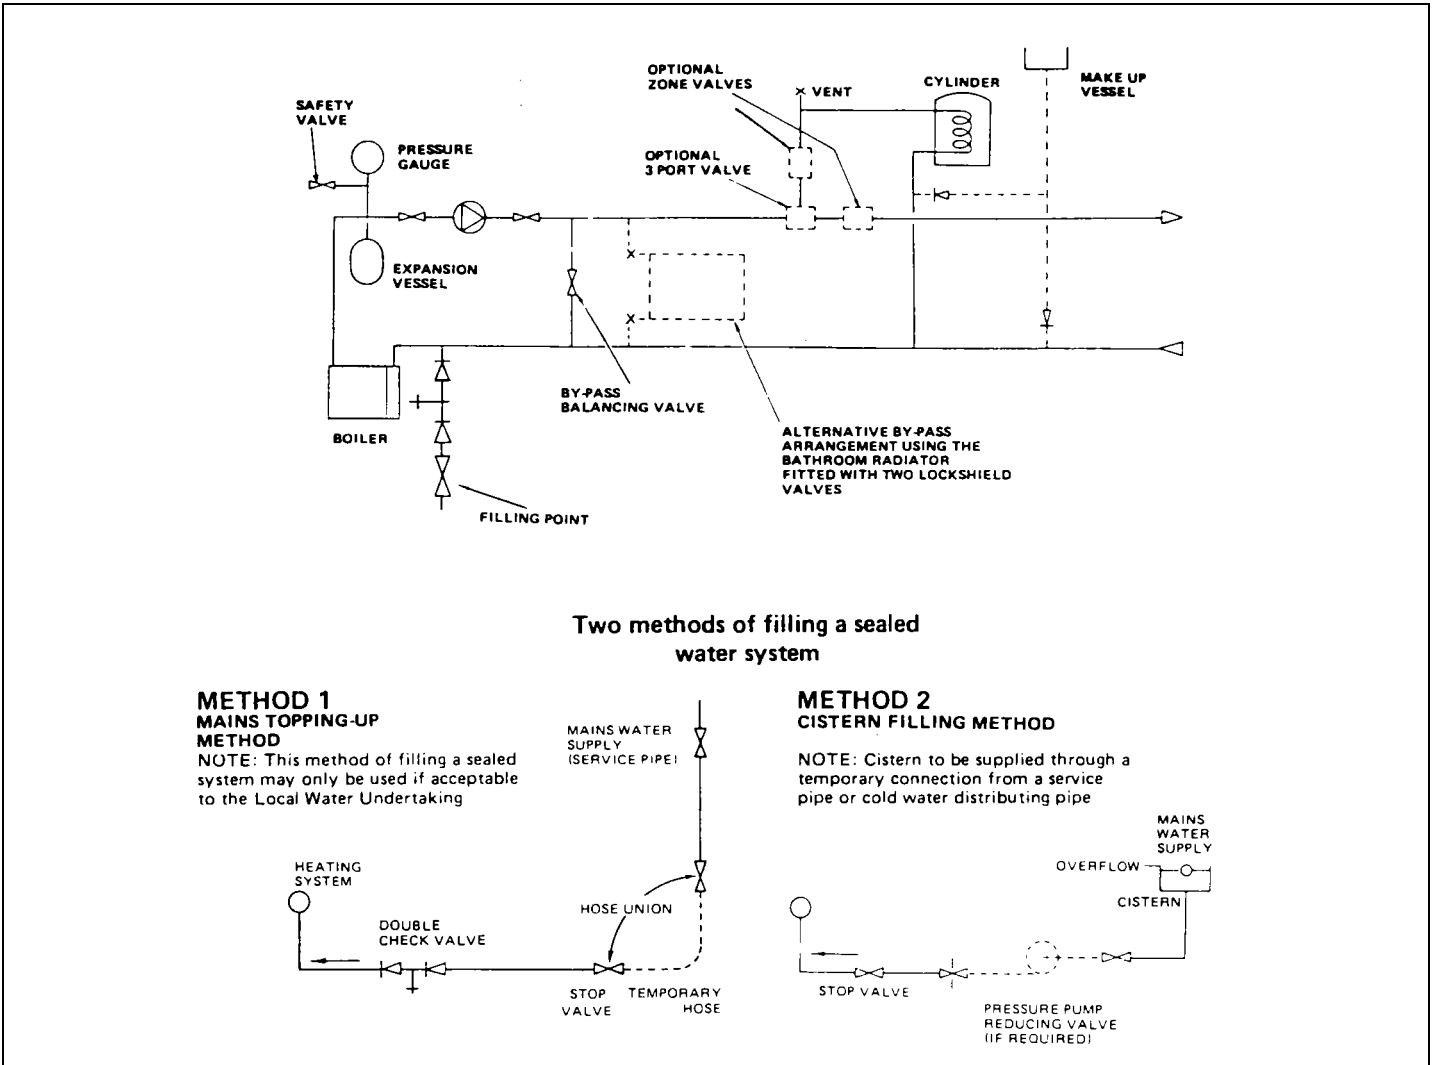

FIG. 5: FULLY PUMPED SEALED SYSTEM.
- ii) where access to make-up vessel would be difficult by using the mains top up method or a remote automatic pressurisation and make-up unit as illustrated in FIG. 5, Methods 1 and 2.
The system shall be fitted with a low filling point at low level which incorporates a stop valve to BS.1010 and a double check valve (approved by the National Water Council) to be fitted in this order from the system mains, refer to FIG. 5, Method 1.